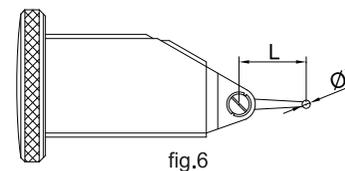

fig.6
3. Each type of dial test indicator has specific length of styli (L, fig.6). If the length is not correct, measurement error will result. Please refer to the following table to choose correct styli.